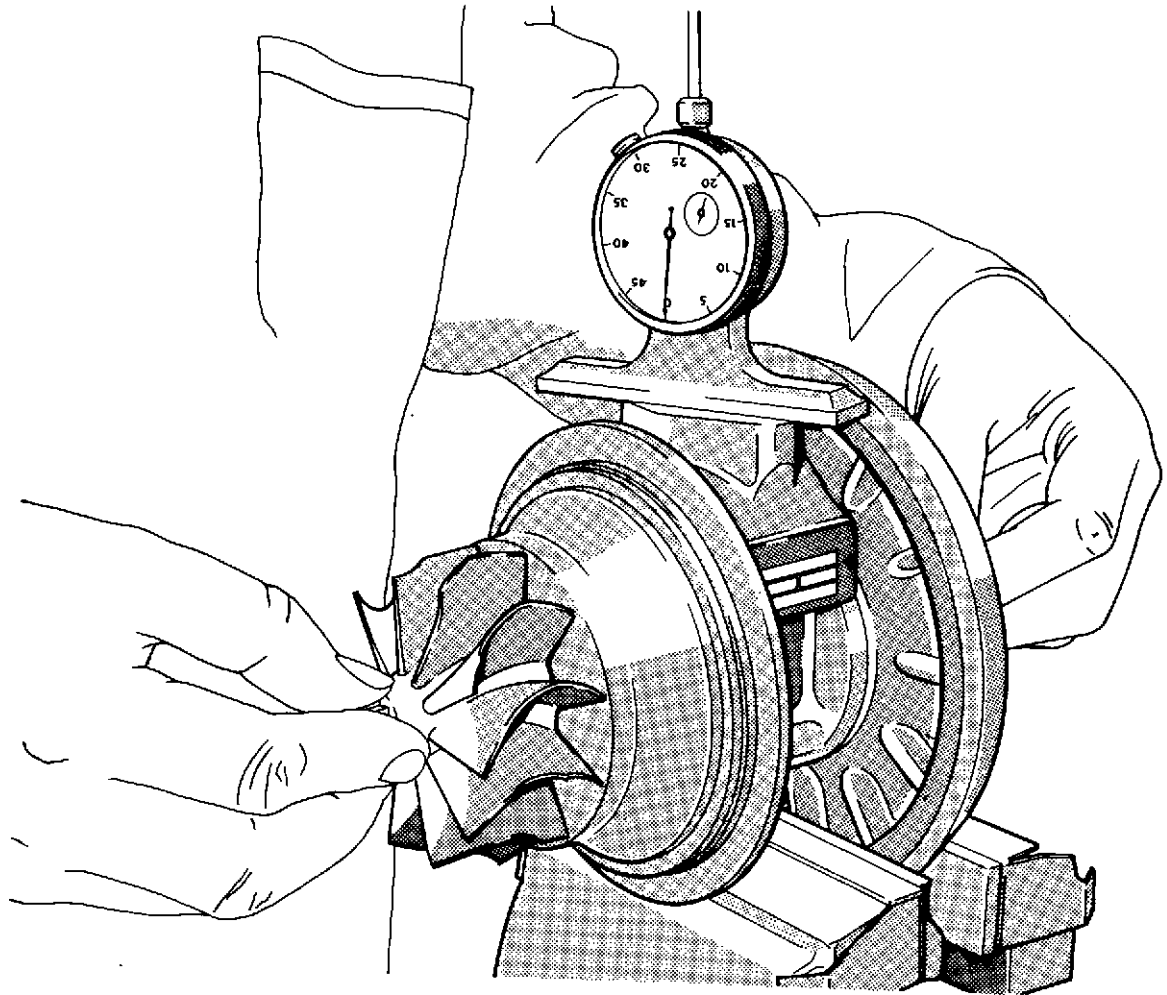

Fig. 5 Radial movement check
- 8 Check the radial movement of the rotor shaft assembly by mounting a D.T.I. on the oil inlet flange, as shown in figure 5, with the button resting on the shaft. Holding the shaft at each end, raise and lower the assembly to its full extent and check the readings on the dial. The total reading should not exceed 0,15 mm (0.006 inch).